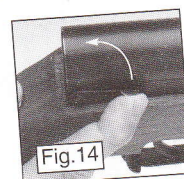
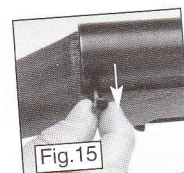

Fig. 14
Fig. 15
1. Rotate the receiver cover pin upward to a vertical position (Fig. 14) and pull the pin out as far as possible (Fig. 15).